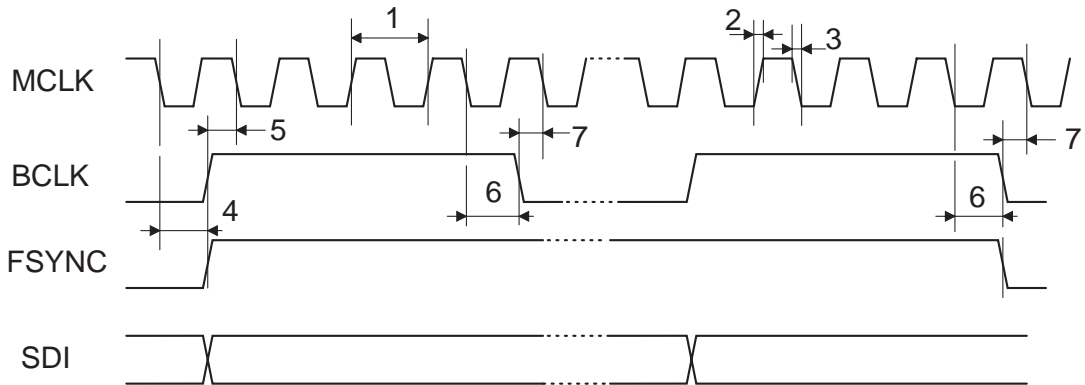

Figure 18: LFS, timing diagram
*see figure 18,19 for LFS and 20, 21 for SFS